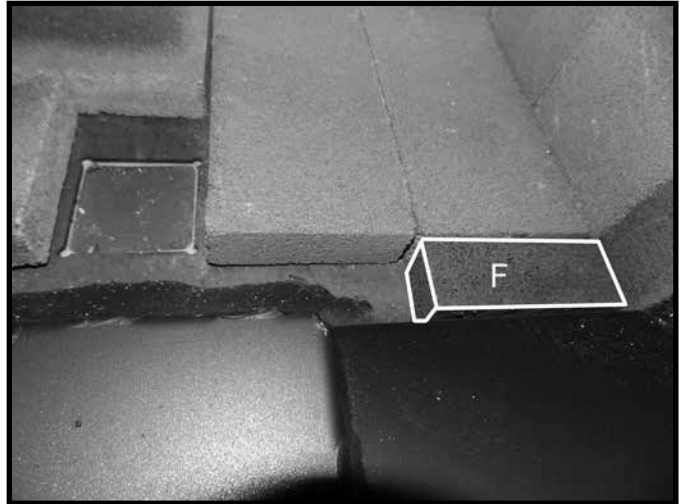
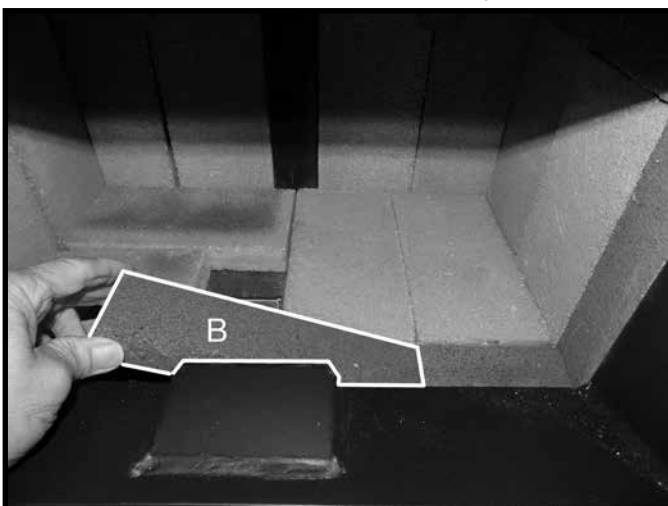
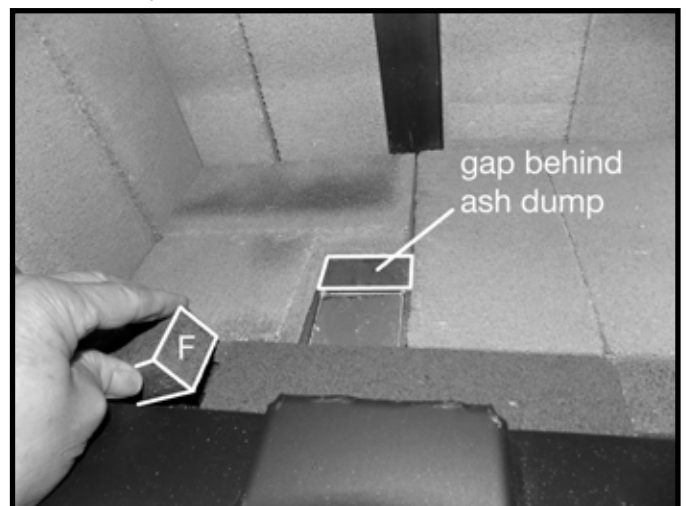

Figure 27. Short, narrow brick installed in front row.
Figure 28. Long, narrow center brick in front row.
Figure 29. Final short, narrow brick in front row.
10. Place a short narrow "F" brick against the front right side of the floor (Figure 27) followed by a longer "B" brick in the center of the front row (Figure 28). Finish with the last "F" brick placed against the left side front row (Figure 29). Note: There will be a gap remaining behind the ash dump.